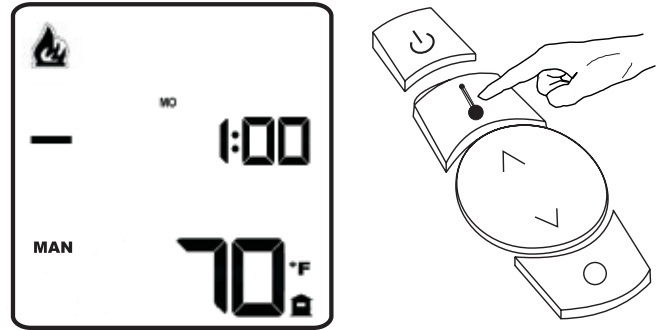

Figure 10
- Turn the remote on by pressing the power button. When the remote activates in either Manual (MAN) or Thermostatic (AUTO) mode the unit will automatically start. If the remote is not in Manual mode, press the remote's mode button to switch the remote's mode to manual. The remote display will show "MAN". See Figure 10.